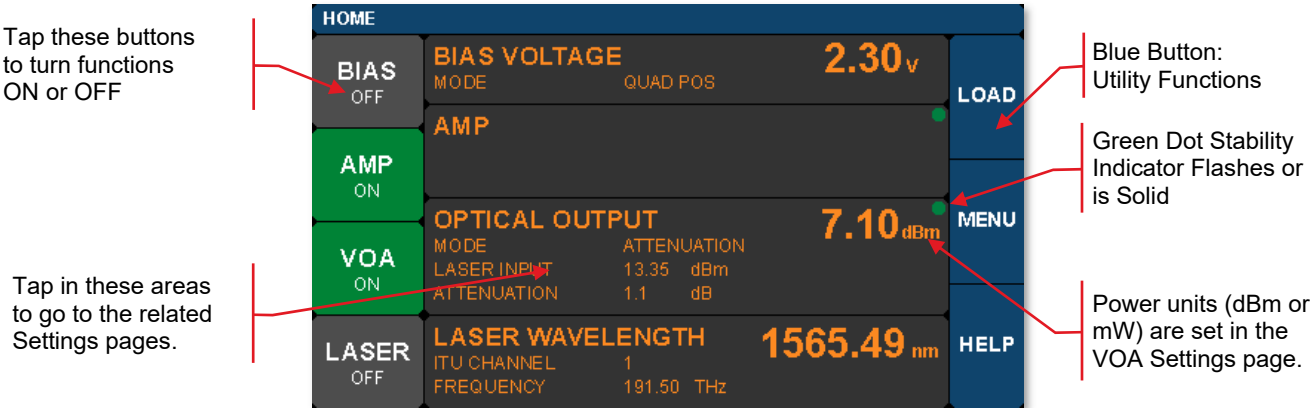

Figure 9 Home Screen Features
4. Turn the laser on by tapping the lower-left touchscreen button on the Home page (Figure 9). Use the utility menu page to adjust the calibration wavelength if desired (Section 3.3).
5. Enable the bias controller by tapping the top-left touchscreen button on the Home page (Figure 9). Wait for completion of the calibration process. The instrument will enable the default Quadrature mode with positive slope bias point (Section 4.3).
6. Take note of the output power, which is shown in the center right section of the Home page (Figure 9).
7. Turn on the VOA controller to adjust output power, if desired, by tapping the center-left touchscreen button on the Home page (Figure 9 and Section 4.5).
8. Turn on the AMP (Figure 9 and Section 4.4).